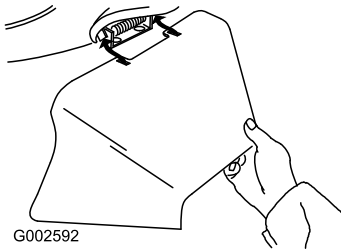

Figure 30
3. Install the side discharge chute and close the door onto the chute (Figure 30).